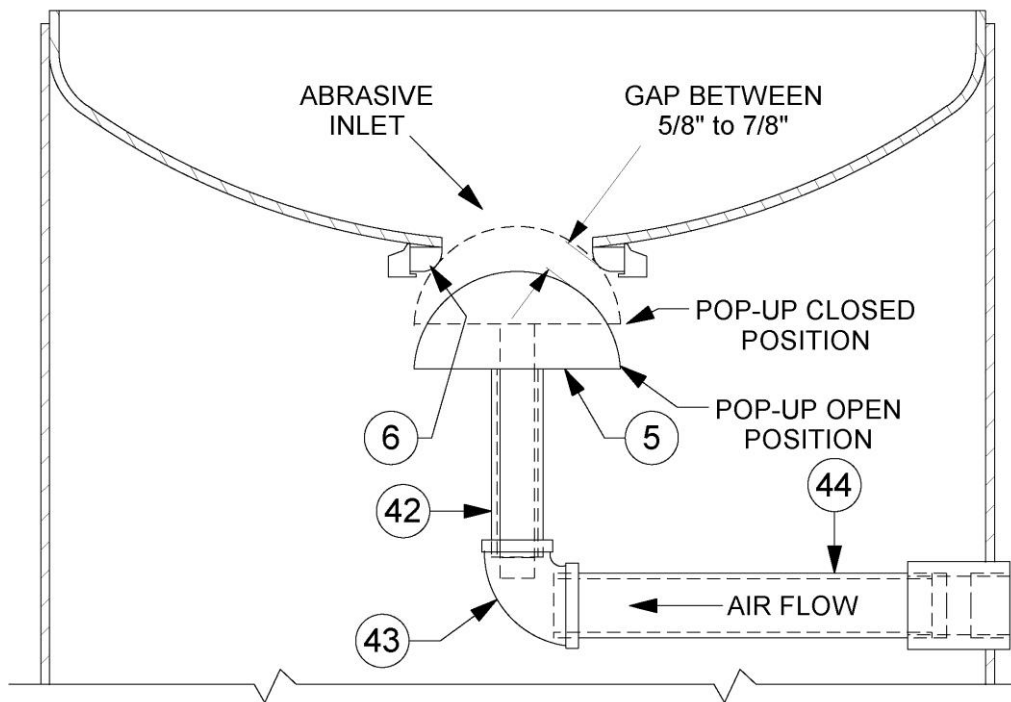

Figure 8.1 – Standard Popup Assembly and Internal Piping
Check the pressure vessel internal piping for corrosion, cracks, wear, holes, or any other damage. Repair or replace damaged components. See Figure 8.1 and Section 9.11.
- e) Check the popup gap (distance between the popup surface and the gasket). It should be between 5/8" and 7/8". See Figure 8.1. An excessive gap is created by a vertical nipple that is too short. An excessive gap will expose the top of the vertical nipple to abrasive when the popup closes which could result in premature wear to the popup.